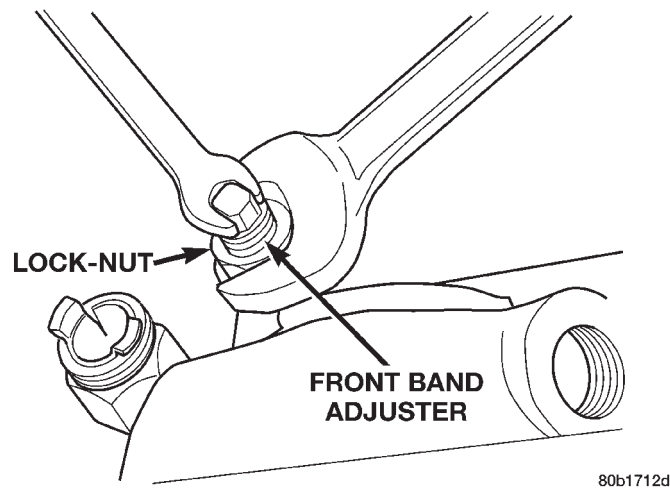
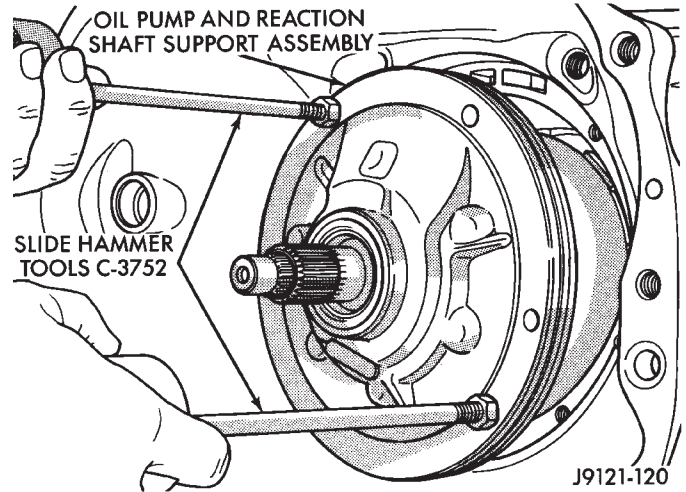

Fig. 76 Front Band Adjusting Screw Lock Nut
Fig. 77 Oil Pump/Reaction Shaft Support
(12) Loosen front band adjusting screw lock nut (Fig. 76) 4-5 turns. Then tighten band adjusting screw until band is tight around front clutch. This prevents front/rear clutches from coming out with pump and possibly damaging clutch or pump components.
(13) Remove oil pump bolts.
(14) Thread bolts of Slide Hammer Tools C-3752 into threaded holes in pump body flange (Fig. 77).
(15) Bump slide hammer weights outward to remove pump and reaction shaft support assembly from case (Fig. 77).
(16) Loosen front band adjusting screw until band is completely loose (Fig. 76).